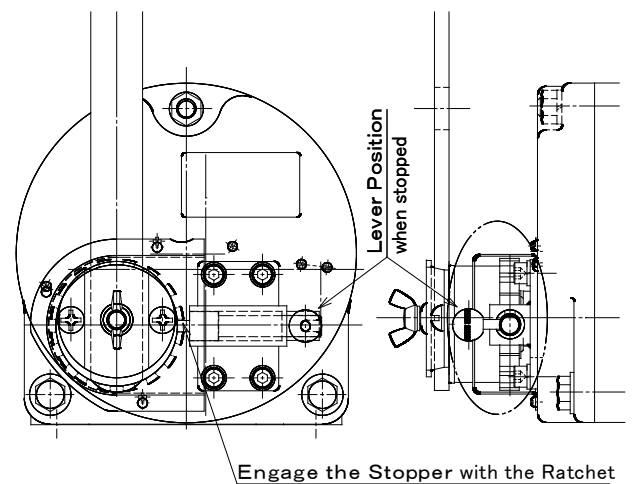

Figure 8 When ending handle operation
(2) When ending the handle operation and activating the brake, apply the stopper while firmly holding on to the handle. At this time, perform the handle rotating operation so that the stopper is applied to the ratchet. Take your hands off of the handle after confirming that the stopper is securely applied to the ratchet. (Refer to Figure 8)